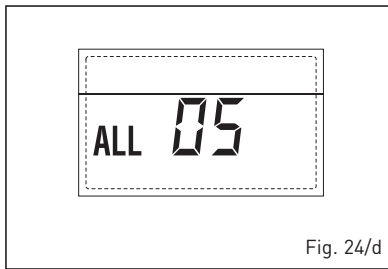

Fig. 24/d
– FLAME BLOCK ALARM 06 (fig. 24/e)